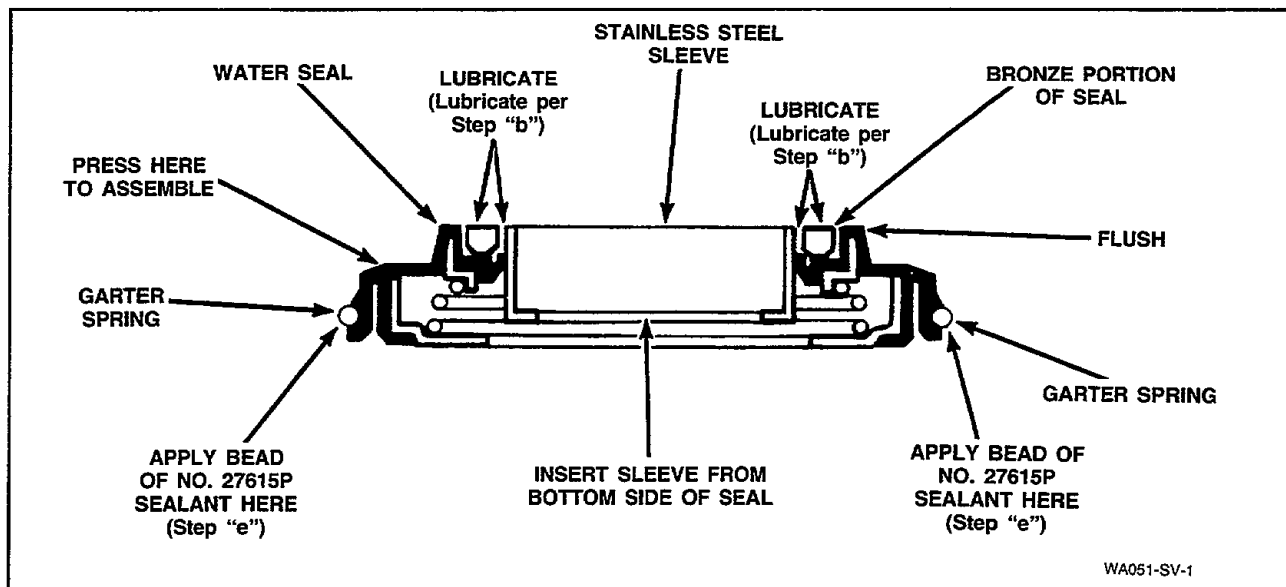

Figure 40
- b. Apply a light film of non-staining petroleum jelly (such as Vaseline®) to bronze portion of water seal and to outer surface of stainless steel sleeve, *Figure 40*
- c. Insert stainless steel sleeve into water seal from bottom side of seal, *Figure 40*, until sleeve is flush with bronze portion of seal.
- e. Carefully apply a small amount of No. 27615P Sealant (supplied with kit) around outer edge of seal and tub. (The area located just below garter spring, *Figure 40*.)